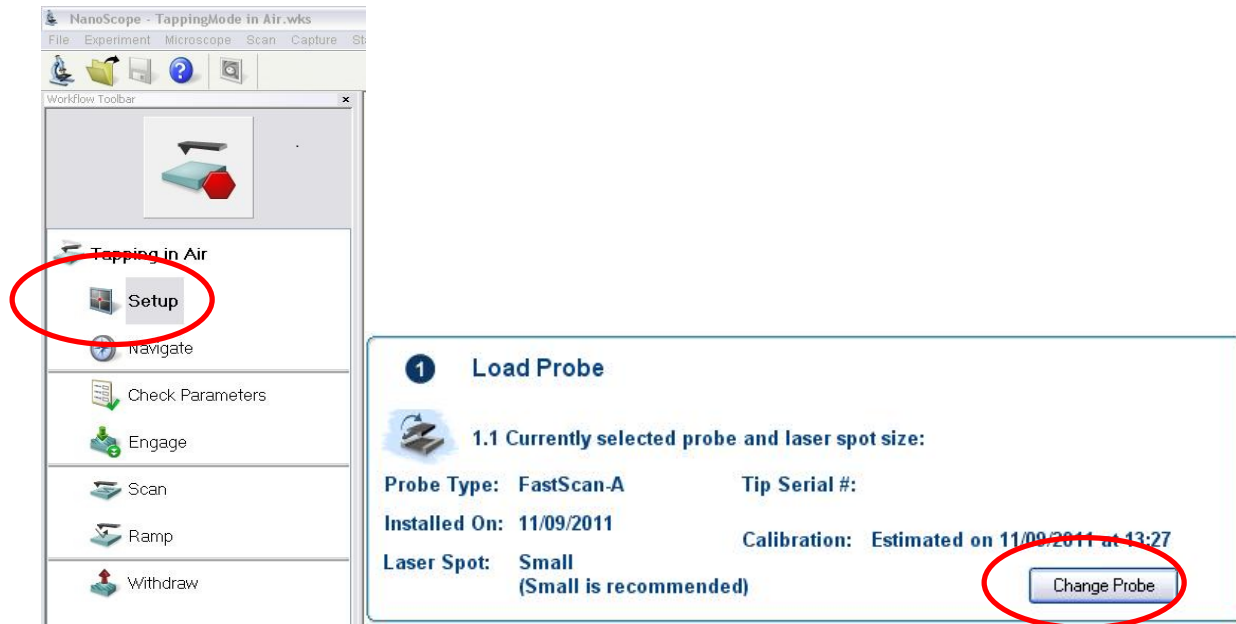
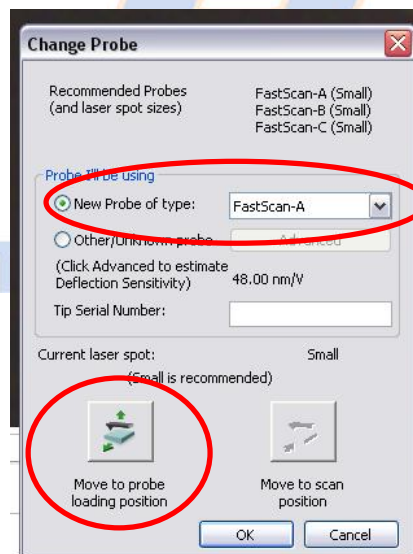

Figure 3. Workflow Toolbar column with Setup circled (left). Within Setup, Load Probe option with the Change Probe button circled (right).
Figure 4. The Change Probe dialog box.
- a) Select "Setup" in the Workflow Toolbar column. Click "Change Probe" (**Figure 3**).
- b) The "Change Probe" dialog box will appear. Click the "Move to probe loading position" icon (**Figure 4**). This will move the stage away from the head so that the probe holder can be safely loaded.
- c) Select the type of probe loaded (e.g., FastScan-A) from the "New Probe of type" dropdown menu (**Figure 4**).
- d) Ensure the laser spot size selected via the switch on the right side of the FastScan heads matches the size "recommended" in software for your chosen probe type (**Figure 3** and **Figure 4**).